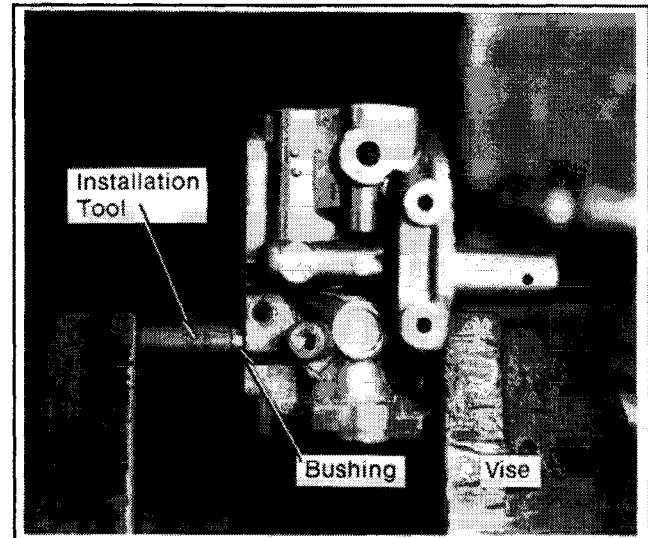

Figure 6-11. Installing Throttle Shaft Bushing.
3. Coat the outside surface of the throttle shaft bushing with Loctite from the kit. Slip the bushing over the shaft. Using a vise and the installation tool from the kit, press the bushing into the counterbore until it bottoms in the carburetor body. Refer to Figure 6-11.